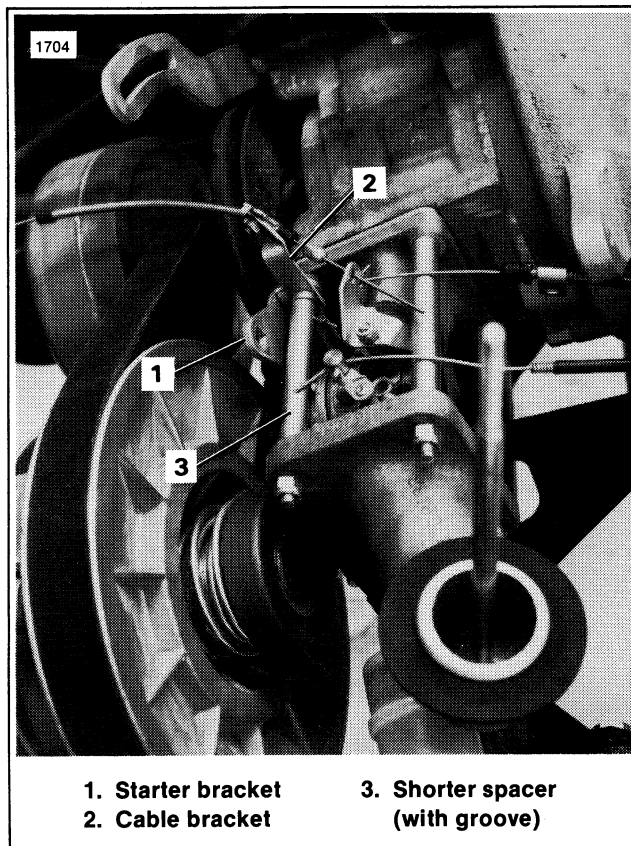

Figure 6-13. Carburetor Mounting
1. See Figure 6-13. Install the carburetor/manifold assembly. Install the starter bracket (1) and governor bracket (2) as shown.
2. See Figure 6-13. Install the four spacers. One of the spacers (3) is shorter than the others to allow for the brackets (1, 2). This spacer is identified by a groove machined in one end.
3. Connect the governor, choke and throttle cables as shown in Figure 6-13. Perform the adjustments listed at the beginning of this section.